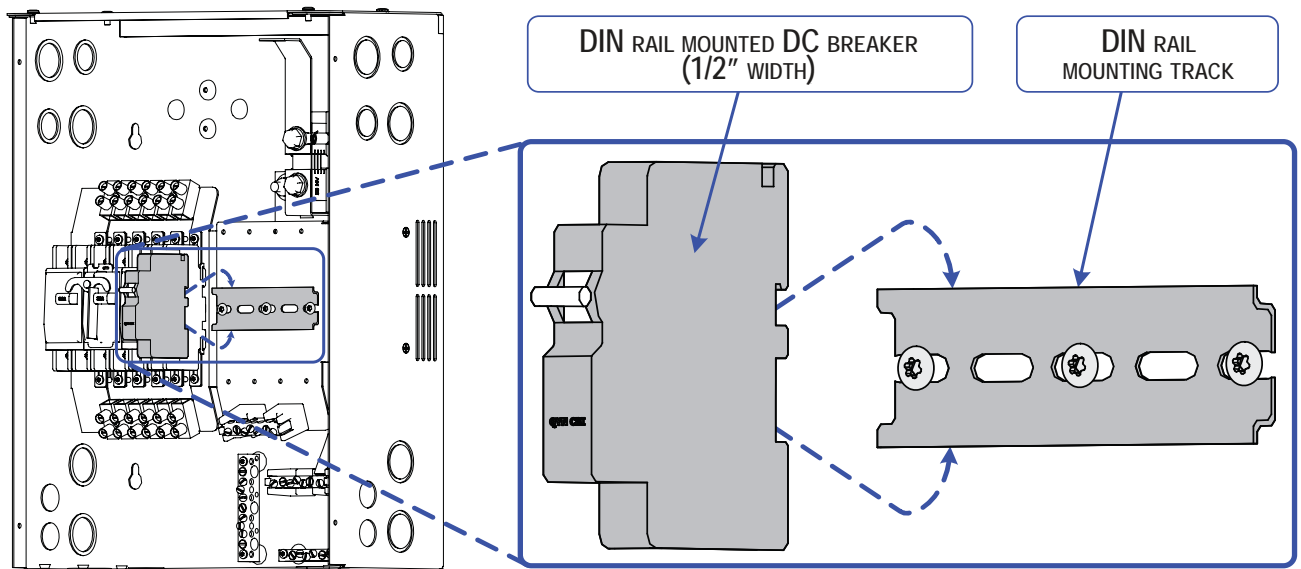

Figure A-4a, Installing DIN Rail Mounted DC Breakers
2. **For DIN rail mounted breakers** (refer to Figure A-4a):